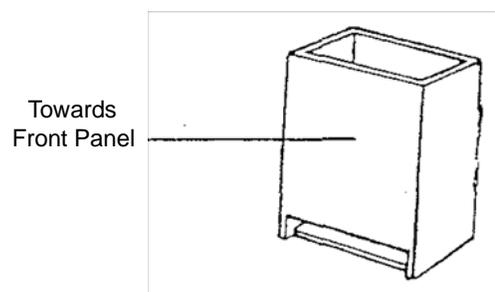

Figure 9
2. To replace the condensate drains, hold the drain against the front panel under the rectangular hole (opening in side of drain should be toward front panel). Push up through the hole until the drain snaps into place (see Figure 9).